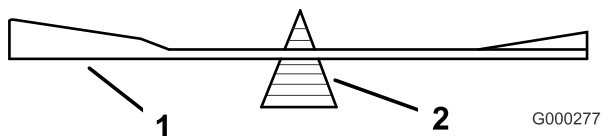

Figure 53
- Check the balance of the blade by putting it on a blade balancer (Figure 53). If the blade stays in a horizontal position, the blade is balanced and can be used. If the blade is not balanced, file some metal off the end of the sail area only (Figure 53). Repeat this procedure until the blade is balanced.
Important: The sail part of the blade must be pointing upward, toward the inside of the mower to ensure proper cutting (Figure 53).
- Install the blade, stiffener, curved washer, and blade bolt to the spindle (Figure 53).